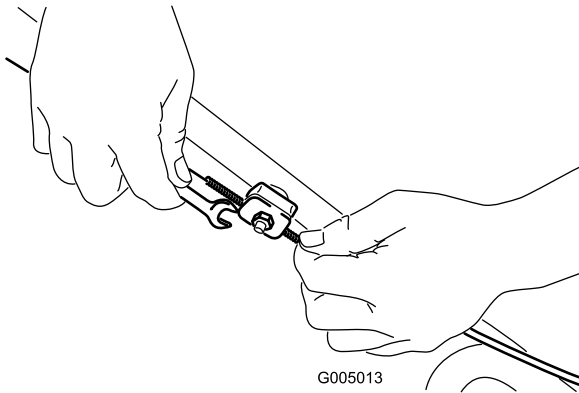

Figure 24
1. Loosen the cable support nut (Figure 24).